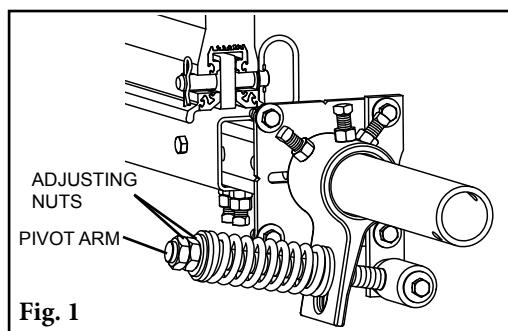

Fig. 1
1. **Remove the tension.** Loosen the adjusting nuts on both sides and turn them out until they are flush with ends of the pivot arms (Fig. 1) or release pressure from air control box. This releases the tension of the blade on the belt.